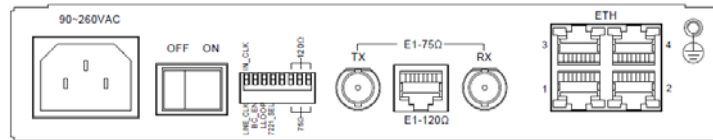

Figure 3 AC input rear panel of 4Eth-1E1 Bridge
•The AC input rear panel of 4Eth-1E1 Bridge is shown in figure 3.
The others are the same as in figure 3.